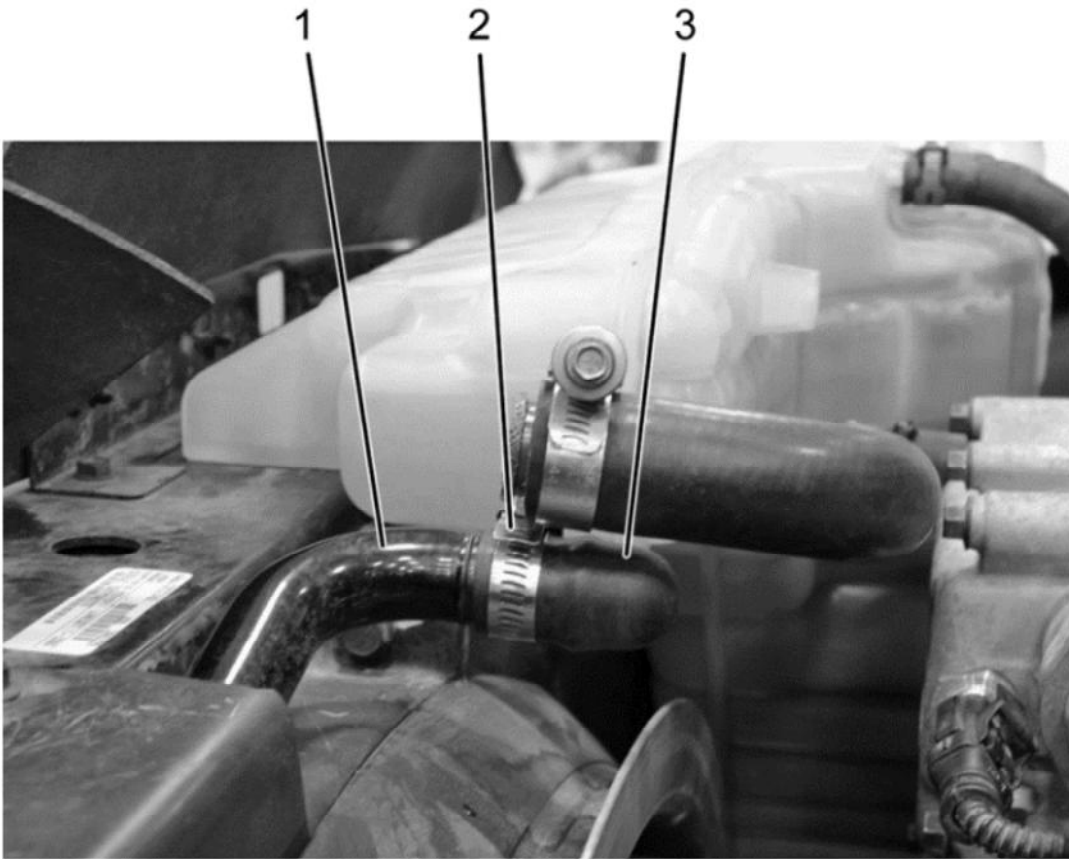

Figure 11: LTR Tube Plug
7. Install rubber cap from adapter kit onto LTR tube (**Figure 11**, Item 3) and install plug into rubber LTR hose (**Figure 11**, Item 1) securing with clamps